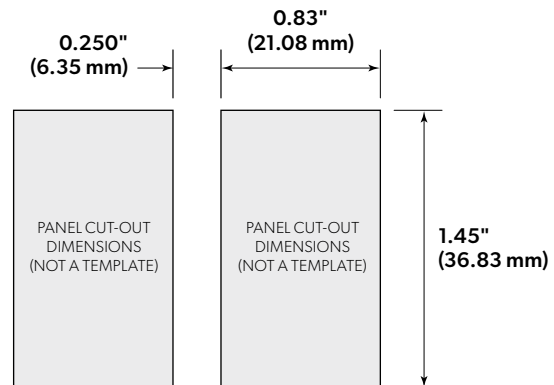

Figure 2.
1. Mount the switches in a panel between .03" (.76 mm) and .188" (4.75 mm) thick. Figure 2 shows the required panel cut-out dimensions. These switches must always be actuated at the same time, so mount them close together.